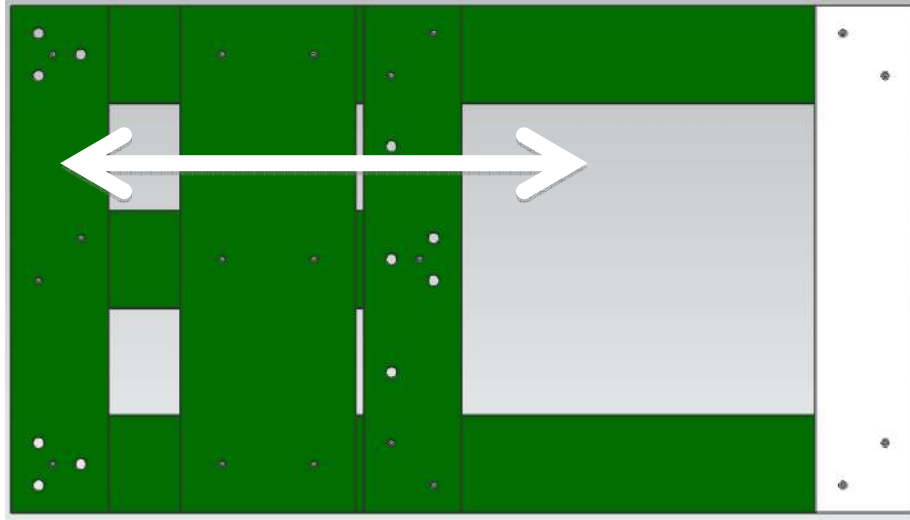

Figure 7. Placement of Base Cross Boards
3. Now that the base is secured in a square assembly, additional components can be added to the frame's base. This includes parts 3 and 5. As shown in figure 7 these boards span the center of the frame. As represented by the white arrow the back edge of Part 3(ii) is located 16 inches from the front edge of Part 3(i). Using the triangle and C-Clamp predrill and secure Part 3(ii) into place using wood screws.
5. Figures 7, 8 and 9 show the suggested placement of wood screws in the frames assembly; all 19 wood screws should now be depleted into the construction of the frame.